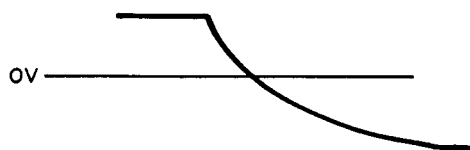

Fig. 7-4 Voltage at ⑰ terminal when FS1 = 0 → 1
III \$03 FS1 becomes 1 from the status described above and the current source of + 60μA is disconnected. Then, the CR's charge/discharge circuit is formed and the voltage at ⑰ terminal decreases as the time elapses as shown in Fig. 7-4. This time constant is specified by internal 20kΩ and external capacitor C101 22μF.